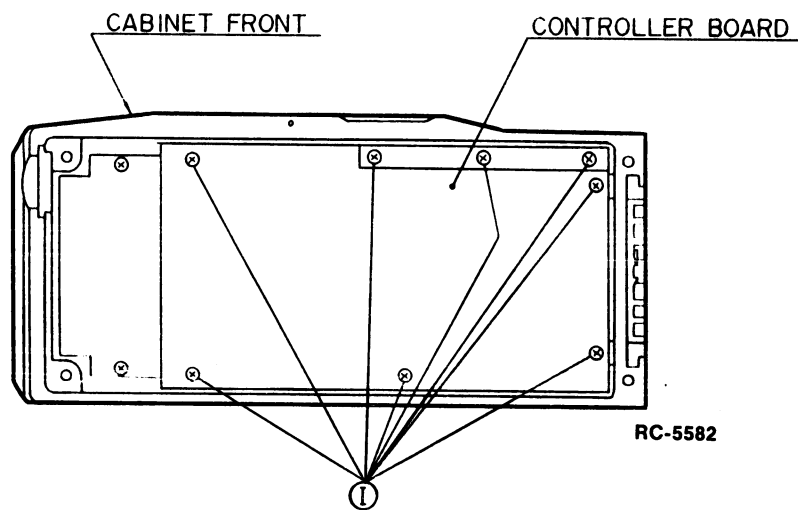

FIGURE 25 - DISASSEMBLY STEP 5
6. To remove Controller PW Board remove 5 screws (D) from the controller board using the Phillips head screwdriver. Then remove the control board from the front cabinet. See Figure 25